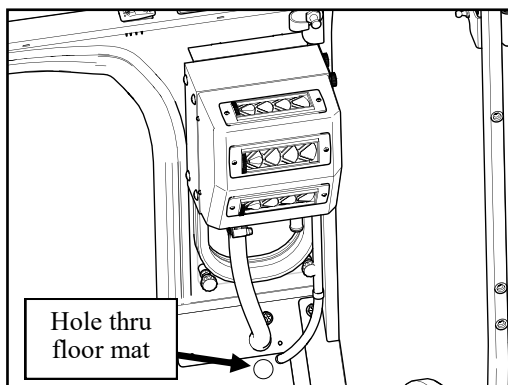

FIGURE 2.3a (B2301 or B2601)
- 1.3 **B2301 or B2601:** Using the large hole found on the floorboard mount as guides, cut the vehicle's rubber mat through the hole and through the large opening in the mount, just below the large hole. Install a plastic bushing from the heater kit into the hole in the cab floorboard mount by pushing into the holes from the inside of the cab. (SEE FIG. 2.3a)
- 2.3 Re-install the thermostat if you had to remove it for drilling. Feed heater hose through plastic bushing. Connect to heater inlet with 1" hose clamp. This is now the heater supply hose. Route the hose through engine compartment to nipple. Cut to length, install to nipple with 1" hose clamp. (SEE FIG. 2.3a or 2.3b)